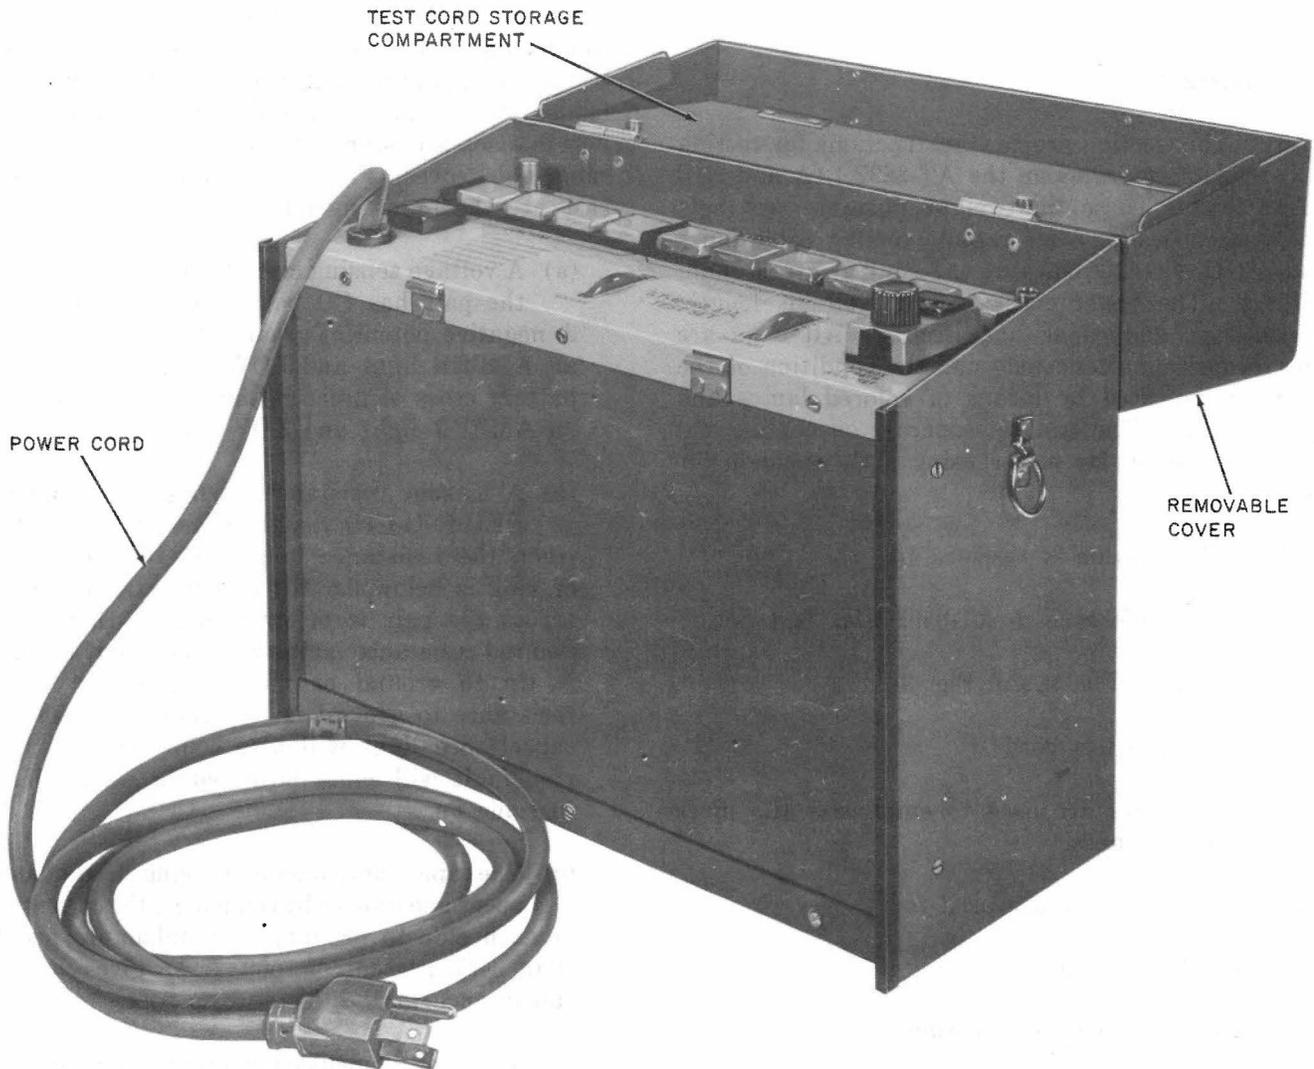
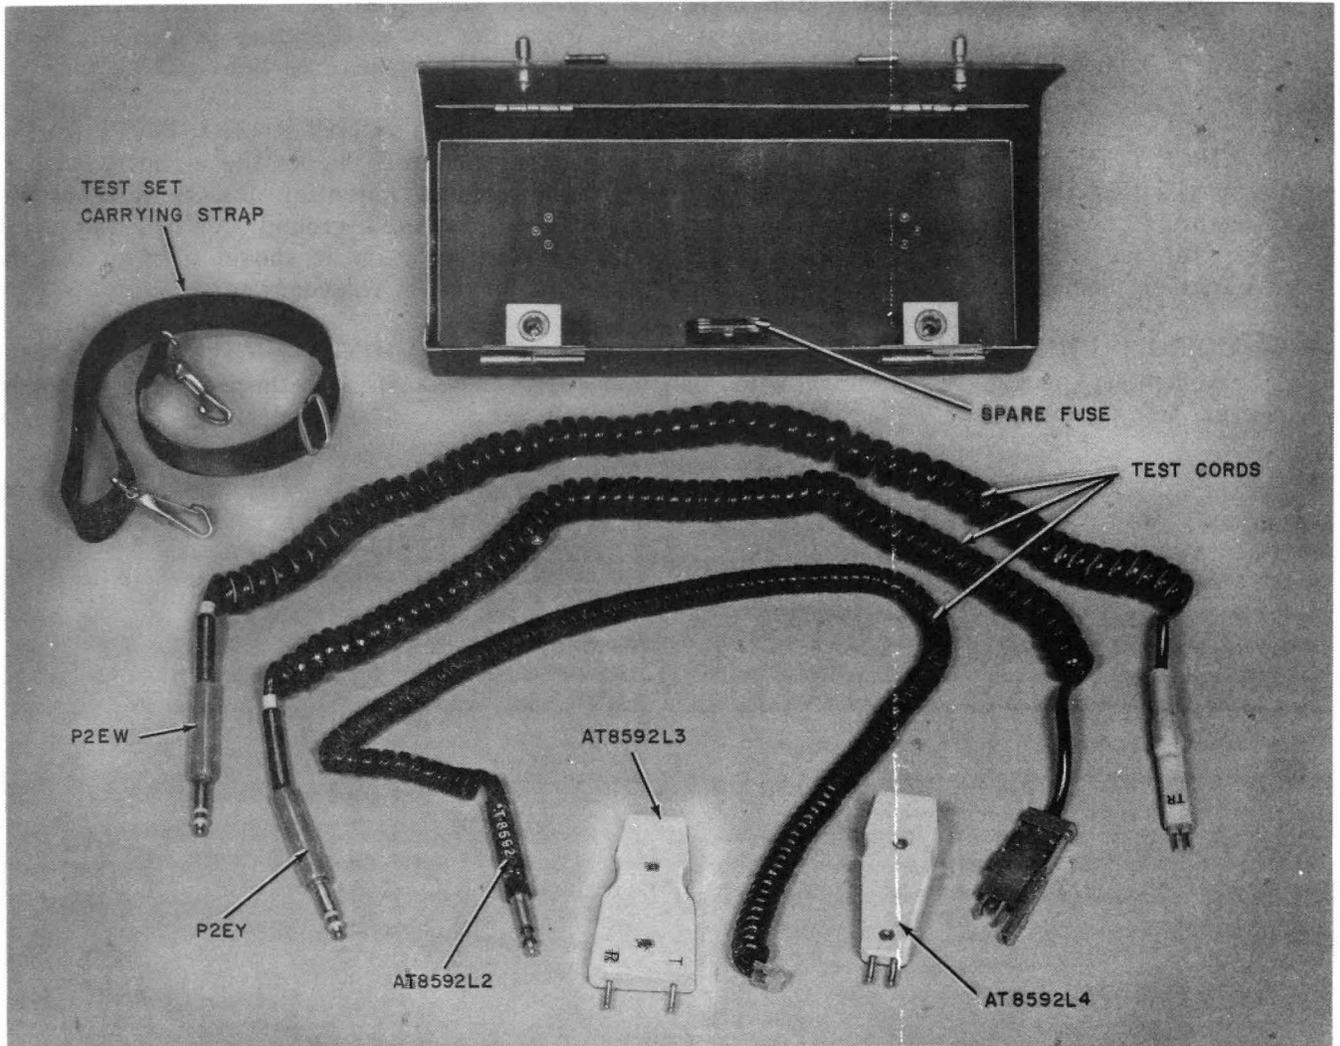
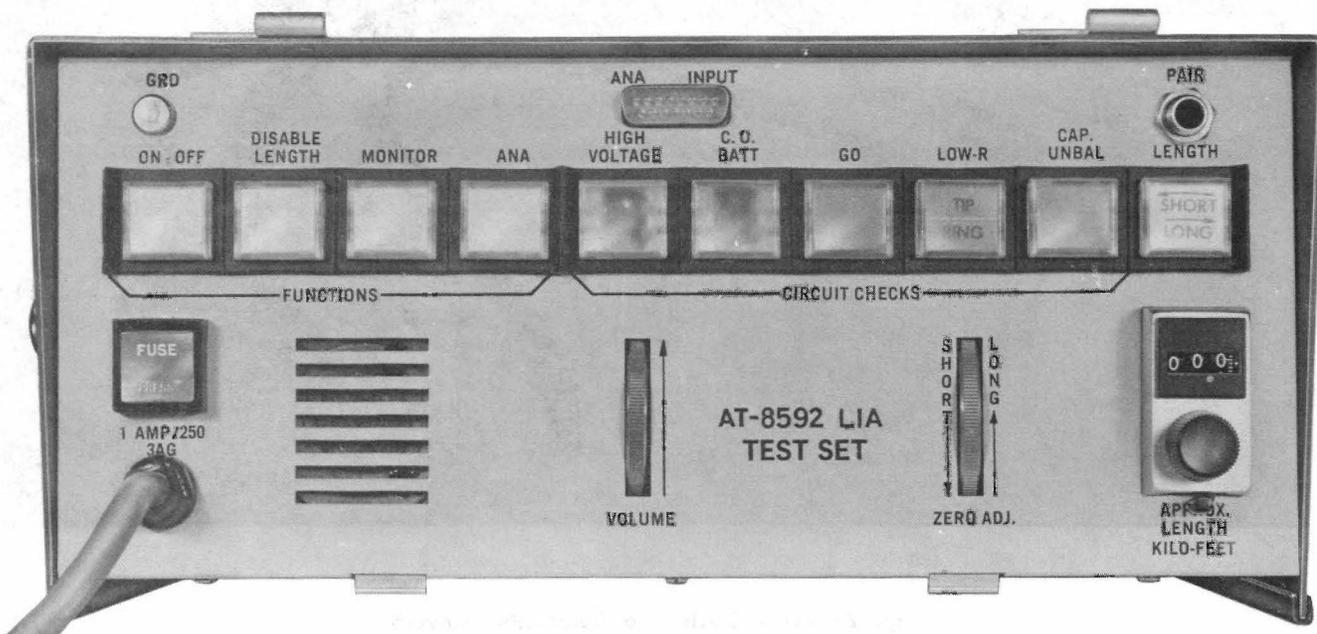

Fig. 1—AT-8592 Pair Tester
Fig. 2—▶Test Cords and Removable Cover◀
Fig. 3—Front Panel AT-8592 L1B4
- Change Fig. 2 and Fig. 3
2.01 This compact test set (Fig. 1) is approximately 12 inches by 6 inches by 11 inches and weighs about 10 pounds. The metal case of the test set is equipped with a strap for securing to a ladder step. The strap and the test cords, when not in use, are stored in a compartment of the removable cover (Fig. 2). Housed in the metal case are the following circuits:
2.02 The following controls are located on the front panel of the set (Fig. 3)